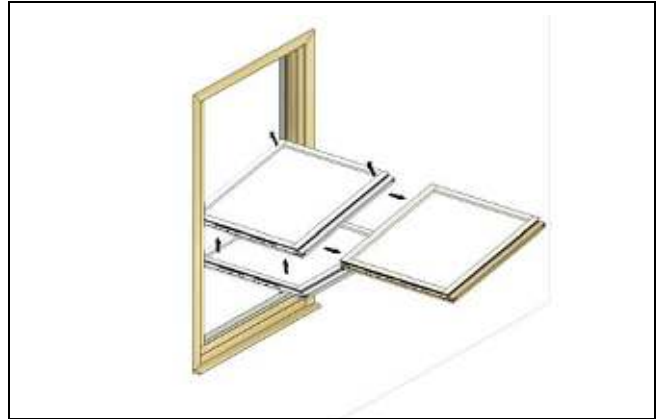

Figure 29
6. Rotate the sash counterclockwise until pins clear the jambs and remove sash. See Figure 29.